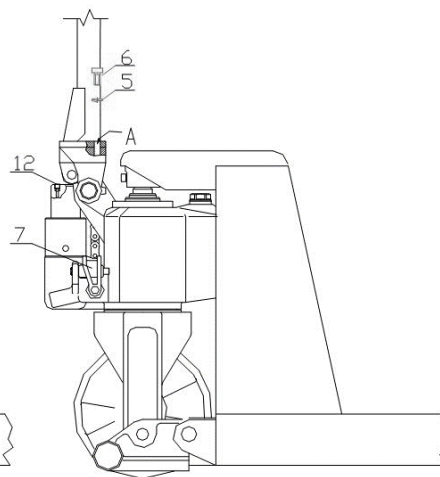

Fig. 2
3.2 See Fig. 2. Put the spring grommets (5) under the socket head cap screws (6). Fix socket head cap screws (6) into the three holes (A) by a wrench and tighten them so that handle (1) and rack (3) are fixed.
3.3 Raise the lever pad (7) by an iron stick and fit the screw and nut at the end of the roller chain (2) into the groove of the lever pad (7). Then remove the iron stick to complete the assembly. See Fig. 2 and 4.
1. See Fig. 2. Relax the screw (12) in counterclockwise and slowly rock the handle until the oil overflows at this point. Stop the handle and then tighten the screw (12) in clockwise.